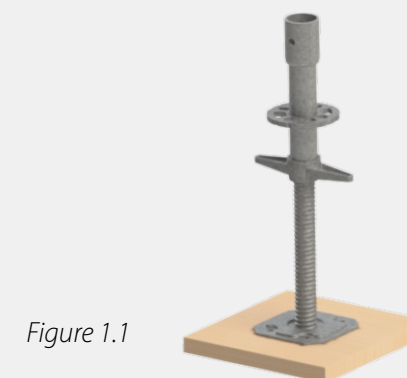

Figure 1.1
- 1.2.2 Position the standard lead-off adapter on the base jack (see Figure 1.1) and use wooden boards under the base plate of the base jacks to distribute the loads across the ground.